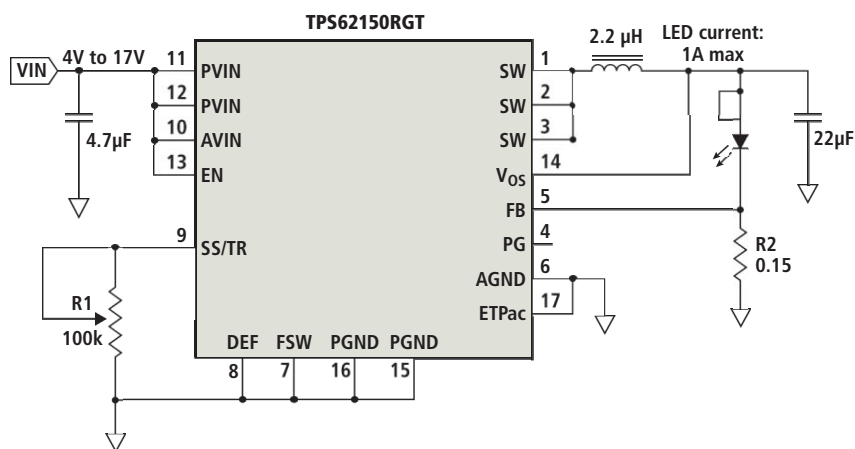
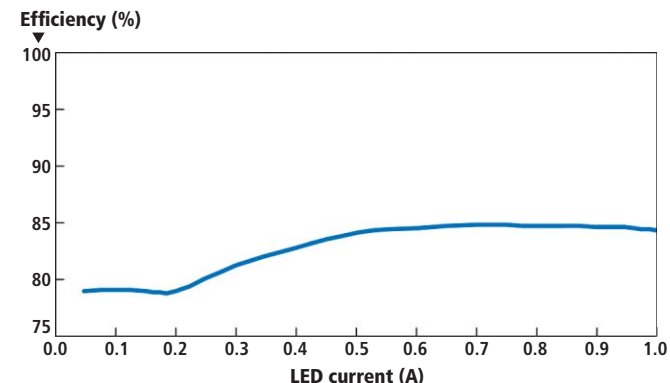

FIG. 1. LED driver with analog dimming enabled by the potentiometer R1.
FIG. 3. Efficiency of the circuit in Fig. 1 over the dimming range.
Analog dimming, however, requires an analog voltage to be generated by a separate voltage reference – perhaps using the output of an RC filter on a square wave input signal, or from an expensive digital-to-analog converter (DAC). The circuit in Fig. 1 eliminates the complexity of these techniques to provide simple, cost-effective analog dimming based on varying a
The circuit requires a voltage-regulating, synchronous, buck converter that provides output currents of up to 1A from up to a 17V source, such as the TPS62150. In Fig. 1, this buck converter regulates the current in the LED by using the feedback (FB) pin to control the voltage across the sense resistor R2. The FB voltage is controlled by a combination of a precision internal reference voltage, which typically is 0.8V, and an external input on the SS/TR (slow start and tracking) pin.
This circuit has very good efficiency, since the FB pin voltage is a relatively low value. That low voltage reduces the losses in the sense resistor, R2. In addition, the TPS62150 employs a power-save mode at light load currents to keep the efficiency high for the majority of the load range. Fig. 3 shows the efficiency of the circuit in Fig. 1 operating from a 12V input, and using TDK's VLF3012ST-2R2 inductor in the switching output.
The efficiency of this circuit can be improved, but at the cost of circuit size. For example you could connect the FSW (switching frequency) control pin to the output voltage, which reduces the operating frequency, and/or select a different inductor with lower DCR (DC resistance) and/or better AC loss characteristics. Efficiencies in excess of 90 percent are possible, although these two methods would likely take more circuit board area to realize. The design presented in Fig. 1 delivers a small solution size with good, albeit not the greatest, efficiency.